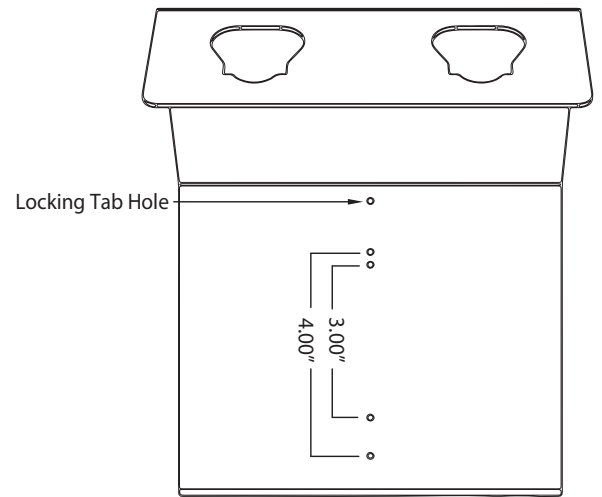

FIG. 1
## Step 2 – Mounting the Charger FIG.1
Measure the key slot spacing on the back of your charger to determine which holes to use. Our mount accomidates 3.00" and 4.00" O.C. spacing. See Fig 1.
The Locking Tab (F) will securely hold the charger to the mount. The locking tab is installed with one #8x1/2" Screw, B. Position the tab as shown in Fig. 1. It helps to installed this screw with an extension on your impact driver. The tab is slotted to allow it to be slid tight against the charger. Tighten the screw to snug the tab against the charger.